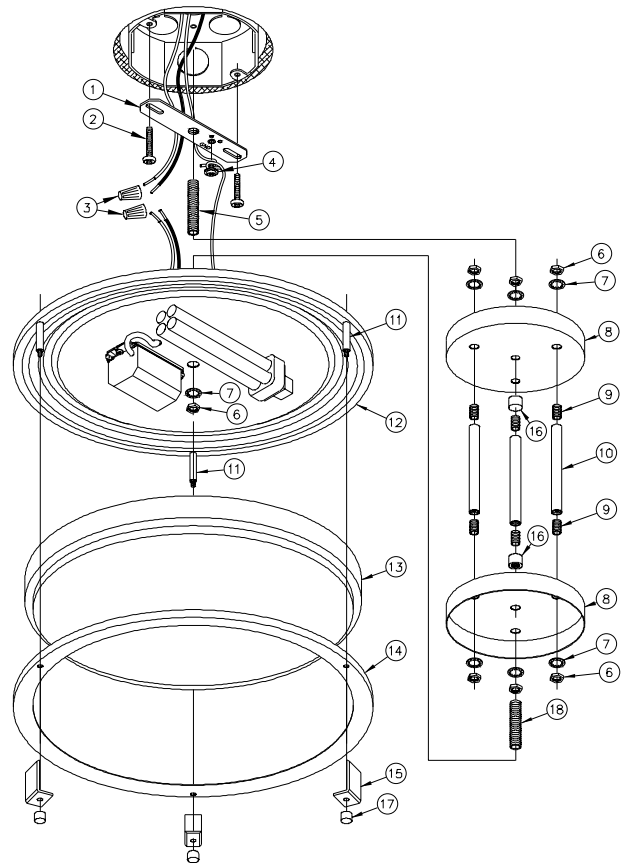
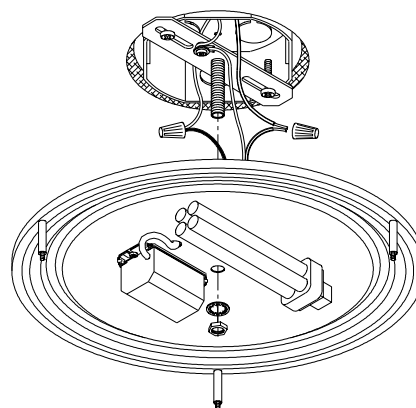

Figure 1
Figure 3
1. **Remove fixture components and parts pack(s).** Check that all parts are included. **See Figure 1.**
3. **Attach crossbar to junction box** with the (2) #8 x 1 machine screws. (head of green screw should face downward.)
4. **Screw the 1/8IP x 1½" nipple** into the center hole of the crossbar about ¼ inch. **See Figure 3.**
- 5A. **With the power off, connect the copper ground wire** from the junction box to the fixture by wrapping it under the head of the green ground screw and tightening the screw. (If house wiring includes no ground wire consult your local electrical code for approved methods). **See Figure 3.**
- 6A. **Use wirenuts to connect the** black fixture wire(s) to the black power supply wire and white fixture wire(s) to white power supply wire. **See Figure 3.**
- 7A. **Place the fixture pan** over the nipple extending from the crossbar previously mounted to the junction box. **See Figure 3.**
9B. With the power off, hold the fixture firmly and connect the ground wire from the fixture to the junction box, by wrapping them under the head of the green ground screw and securing them to the crossbar. (If house wiring includes no ground wire consult your local electrical code for approved methods). See Figure 3.
10B. Use wirenuts to connect the black fixture wire(s) to the black power supply wire and white fixture wire(s) to white power supply wire. See Figure 3.